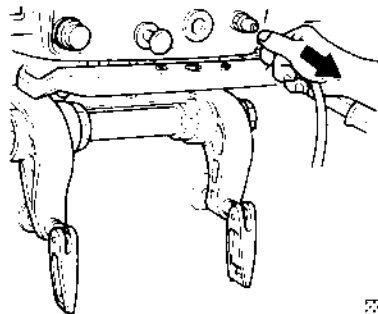

Fig. 42
- 2) Disconnect fuel connector from the motor. (Fig. 42)